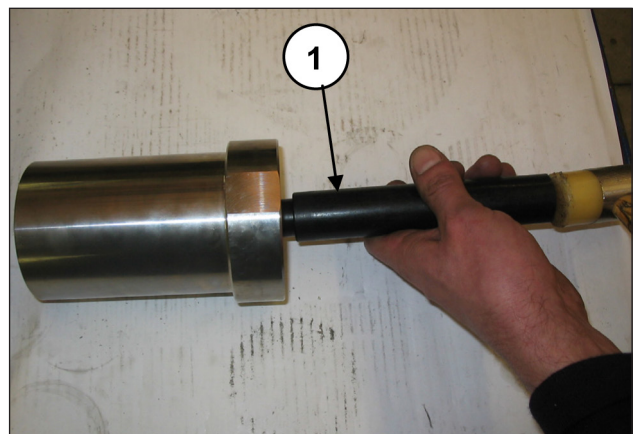
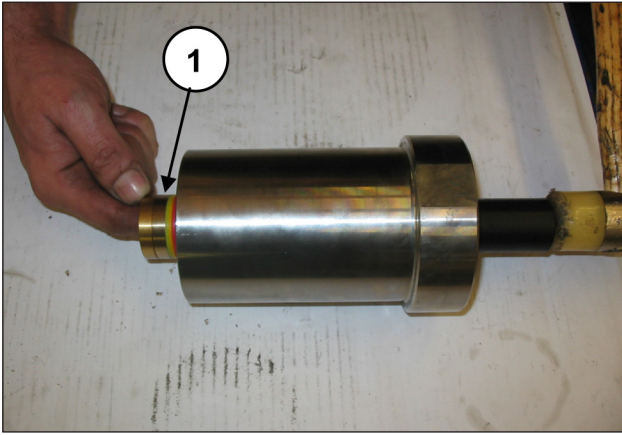

Fig. 128
Fig. 129
With the liner separate from the seal support and with the special plastic pin (pos. ①, Fig. 128) have the HP (high pressure) pack come out (pos. ①, Fig. 129).
At each disassembly, the HP packing (pos. ①, Fig. 129) must be replaced.